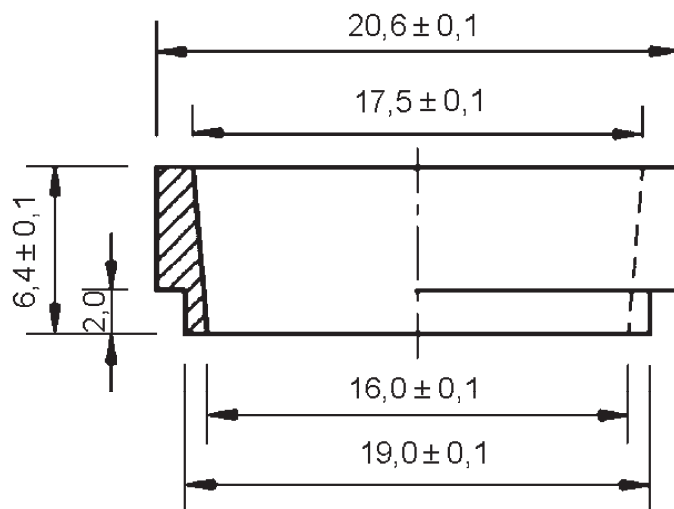

Figure 1 — Tapered brass ring
**5.2 Ring**, tapered brass ring to the dimensions of Figure 1.
- c) type of ring used, if the tapered one (see Figure 1) is not used;